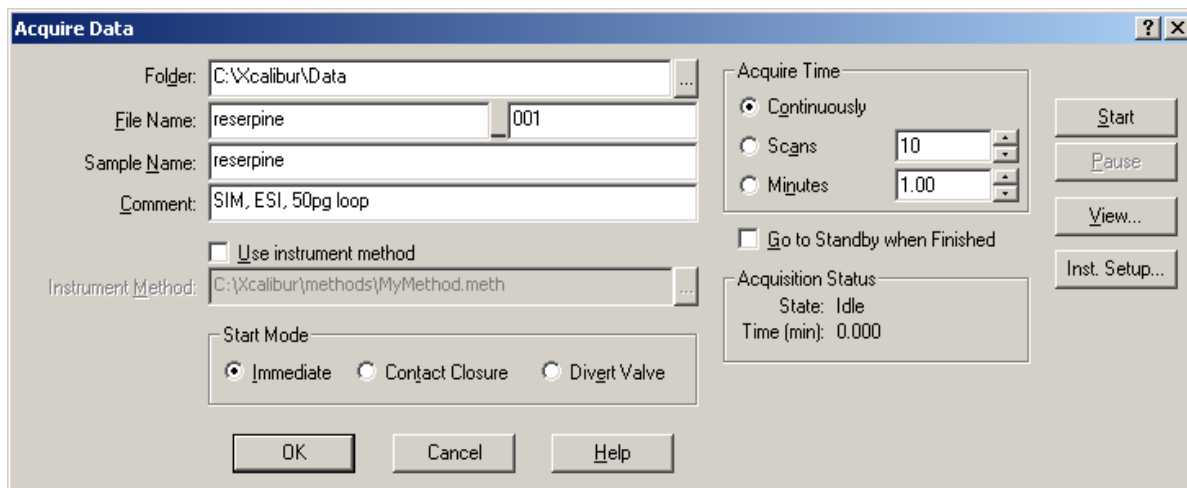

Figure 46. Acquire Data dialog box, showing typical settings for acquiring data
5. On the Control/Scan Mode toolbar, click **Acquire** Data to open the Acquire Data dialog box. See Figure 46.